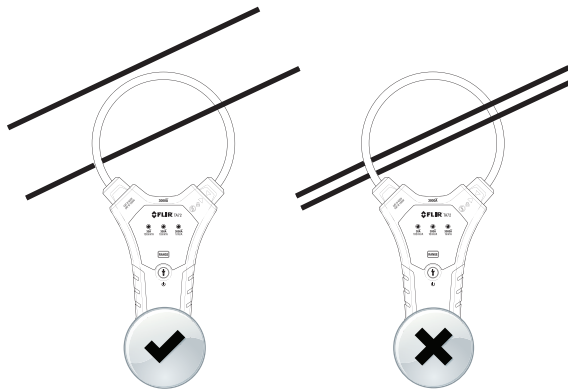

Fig. 5-3 Clamp around one conductor
6. Fully enclose the conductor under test with the flexible clamp probe (see Fig. 5-3). Do not measure current higher than the specified current limit.